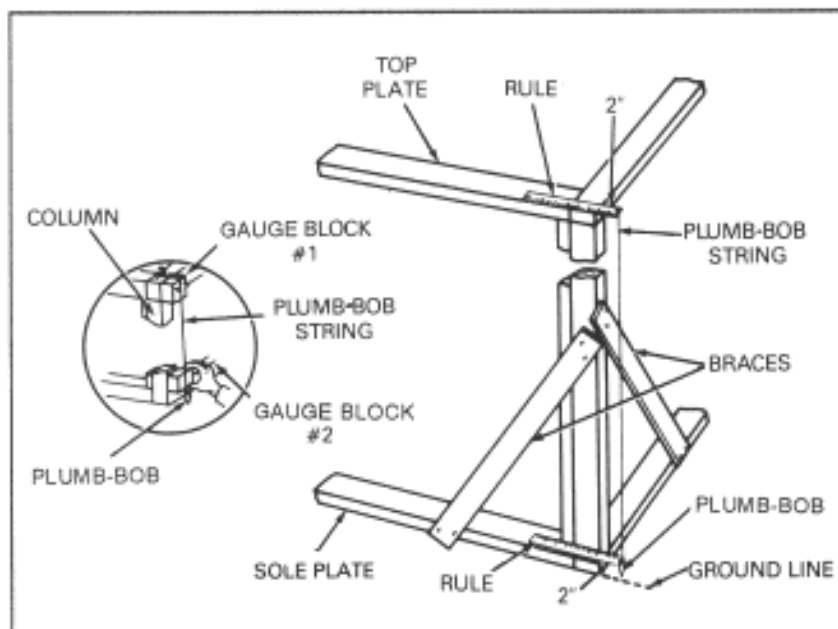

Figure 6-38. Plumbing a post
Step 3. Hang the bob line over the rule so that the line is 2 inches from the post and extends to the bottom of it, as shown in Figure 6-38.
Method 2. An alternative method of plumbing a post is shown in the inset in Figure 6-38. 1b use this method—